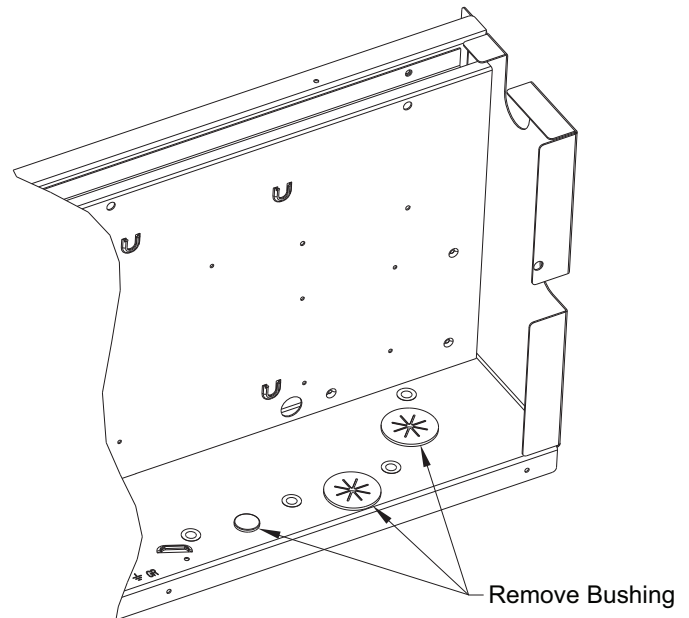
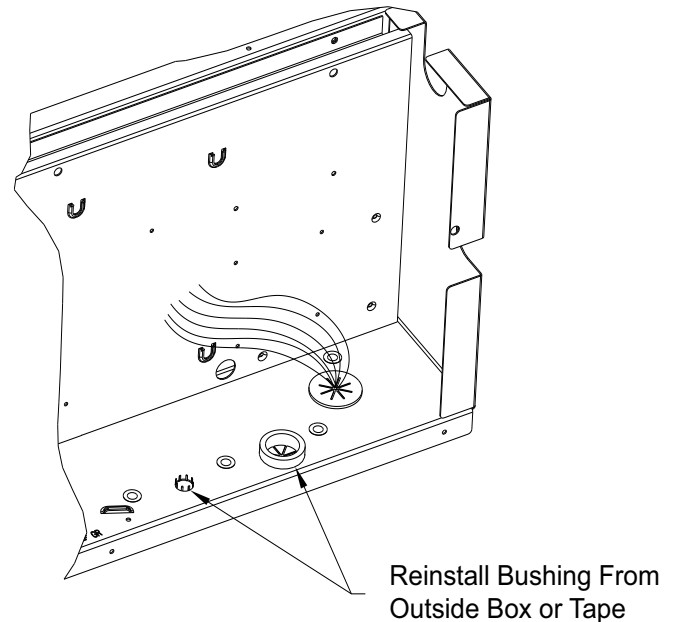

Fig. 8 — Control Box - Bushings to Remove (STD SCCR and High SCCR)
Fig. 9 — Bushings Replaced from Outside Control Box (STD SCCR and High SCCR)
7. All bushings in the area of the control box where the single point box (SPB) mounts, must be removed prior to securing the SPB to the control box. (See Fig. 8.) Also, for units installed in the snow belt, all unplugged holes in the bottom of the control box which are not used must be plugged before installing the SPB. Use foil tape or reinstall the bushings from the outside of the control box prior to securing the SPB. (See Fig. 9.)
8. Remove the single point box cover. Secure single point box to the underside of the control box with the 2 screws provided. (See Fig. 1.) Re-install bushing on the SPB tap conductors. (See Fig. 9.)